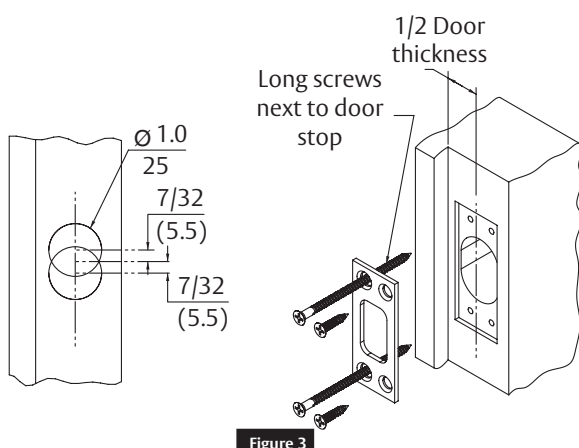

Figure 3
- Drill two 1" (25 mm) dia. holes  $\frac{7}{32}$ " (5.5 mm) above and below height line to a depth of 1-1/8" (29). Drill  $\frac{1}{8}$ " (3 mm) dia. pilot holes for  $\frac{3}{4}$ " (19) long screws and  $\frac{5}{32}$ " (4 mm) dia. pilot holes for 3" (76 mm) long screws. (Figure 3)
- a. Attach strike to door jamb as shown in Figures 3 and 4.